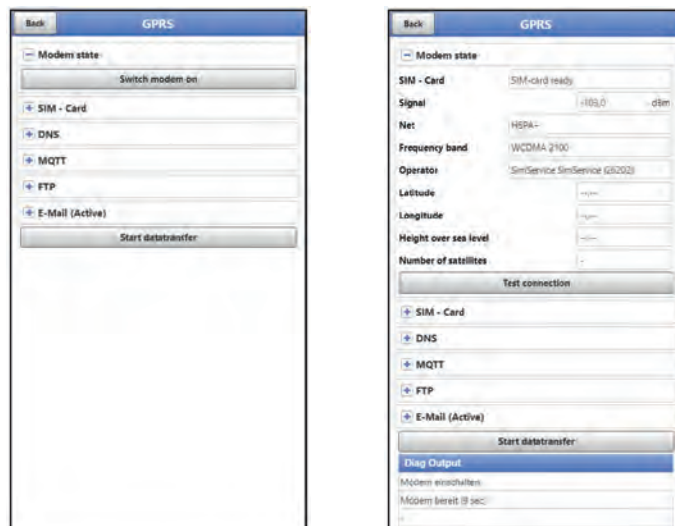

Fig. 41-3 Modem State / SIM Card State
3. Wait until the device has searched for the GPS coordinates (latitude/longitude) and these have been entered in the menu (see Fig. 41-3). This may well take a few minutes.